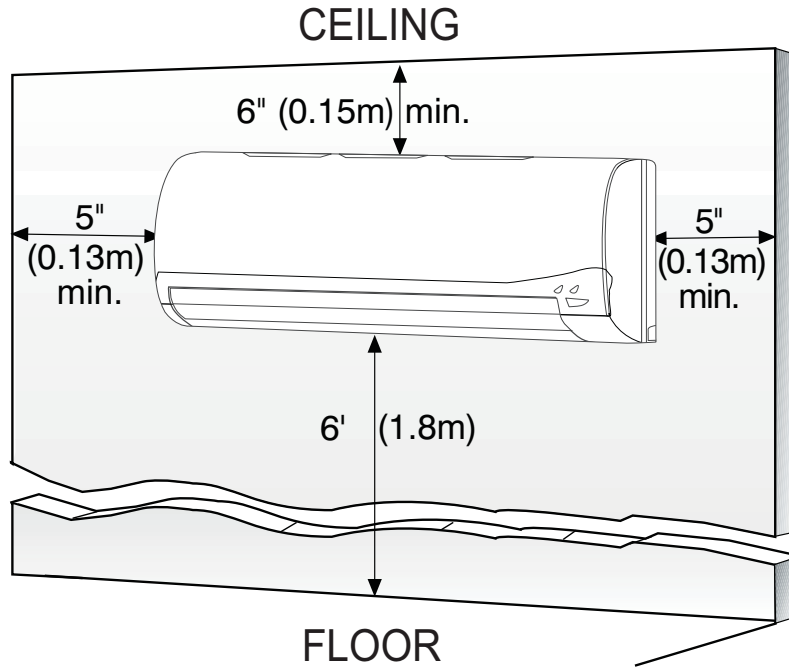

Fig. 4 – Indoor Unit Clearances
Allow sufficient space for airflow and servicing unit. See Fig. 4 for minimum required distances between unit and walls or ceilings.
- A location which provides appropriate clearances as outlined in Fig. 4. Be sure to leave enough distance to allow access for routine maintenance. The installation site should be 72" or more above the floor.
- A location which provides appropriate clearances as outlined in Fig. 4.